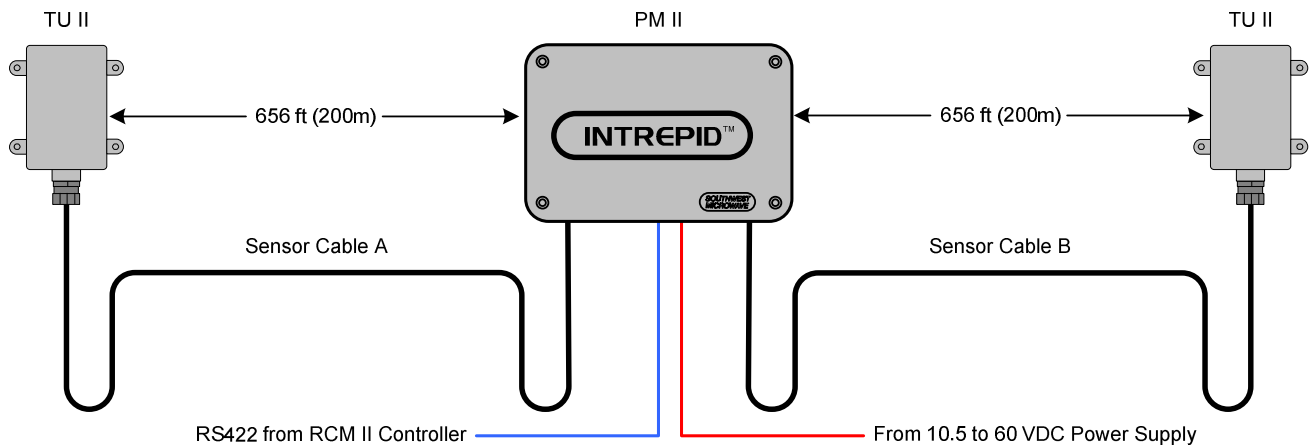

Figure 3.1 – One PM II System
Figure 3.1 show a one (1) PM II system using two (2) TU II's with a linear distance of 200m (656 ft) from the PM II to the TU II's. This is a suitable configuration for many small commercial sites. The controller can be the RCM II or CM II for relay outputs, the GCM II or PSM for graphics and relay outputs or an SDK. A ROM II -8 or -16 may be required for relay outputs and an AIM II for additional inputs.